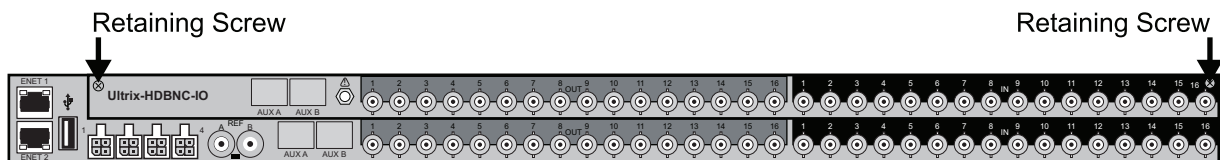

Figure 3 Ultrix Rear Panel — Location of Retaining Screws on an ULTRIX-HDBNC-IO Blade
3. Disengage the retaining screws on either end of the I/O Blade. Refer to **Figure 3** for screw locations.